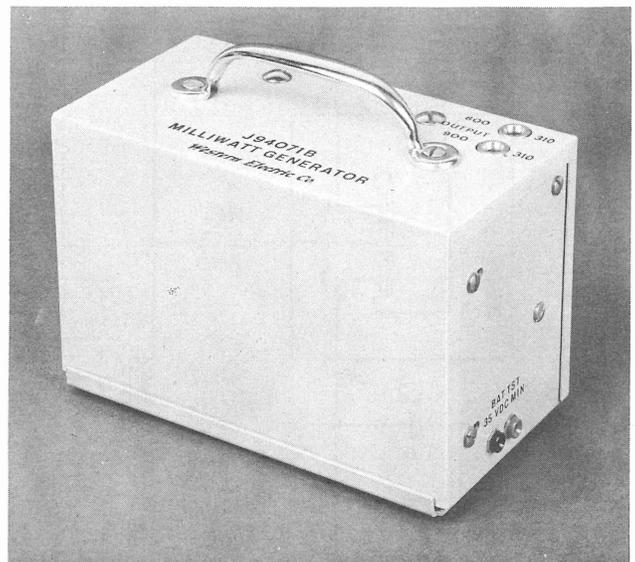

Fig. 1 - 71B Milliwatt Generator
2.01 The 71B generator consists of J94071B, List 1 assembly and wiring in accordance with SD-95277-01. The generator circuit is housed in a metal case 3-1/2 by 4 by 6-1/2 inches. The complete unit, shown in Fig. 1, with a KS-14370 dry cell battery weighs 6 pounds. A carrying handle is provided on the case.